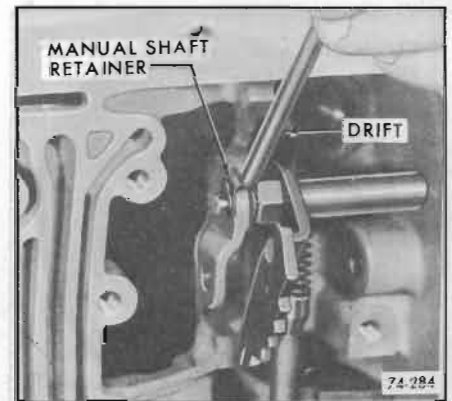

Figure 74-284
8. Install manual shaft retainer. See Figure 74-284.